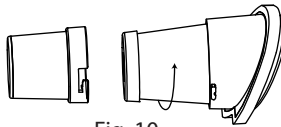

Fig. 10
3. Rotate the Hepa filter right clockwise separate it from stainless steel cover. (see Fig. 10)